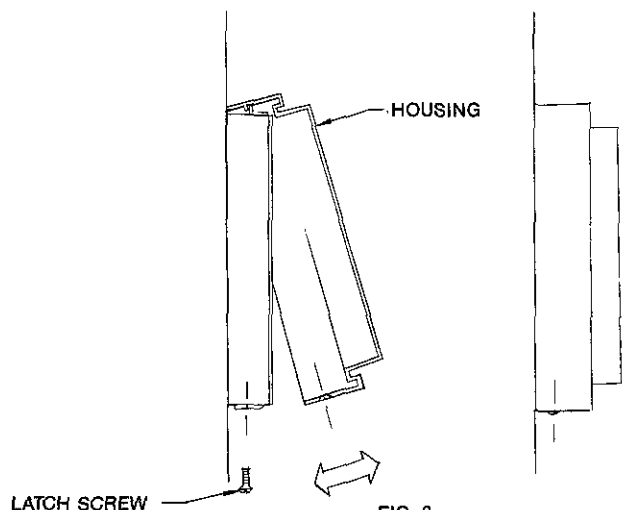

FIG. 3
1. Disassemble fixture by removing LATCH SCREW visible at side. HOUSING "hinges" down for removal. See Fig. 3. **NOTE:** A #10 allen wrench (not provided) is required for 6580 and 6581.
5. Mount diffuser HOUSING to FIXTURE BODY by tilting HOUSING to engage lug with projection of FIXTURE BODY. Swing HOUSING into position, seating against GASKET. See Fig. 3.
6. Press HOUSING into alignment against GASKET and secure with LATCH SCREW. See Fig. 3. **NOTE:** Mount with LATCH SCREW down in wall mounting.